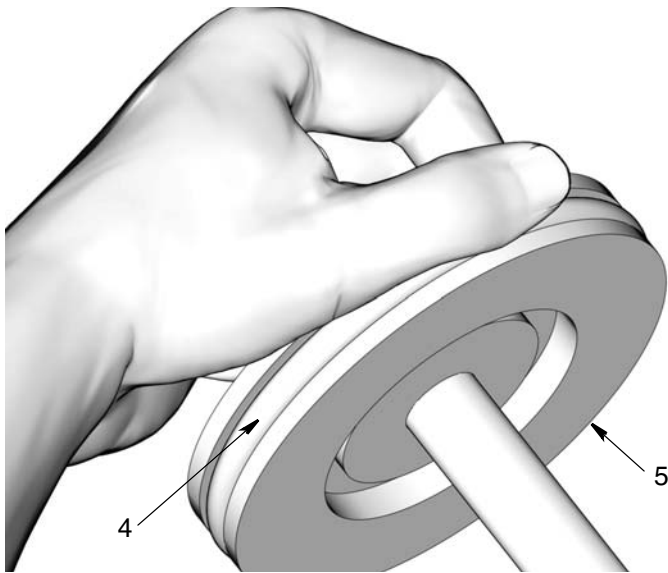

FIG. 32
8. Apply a thin layer of grease to piston seal (4). Install seal around piston (5) as shown in FIG. 32.